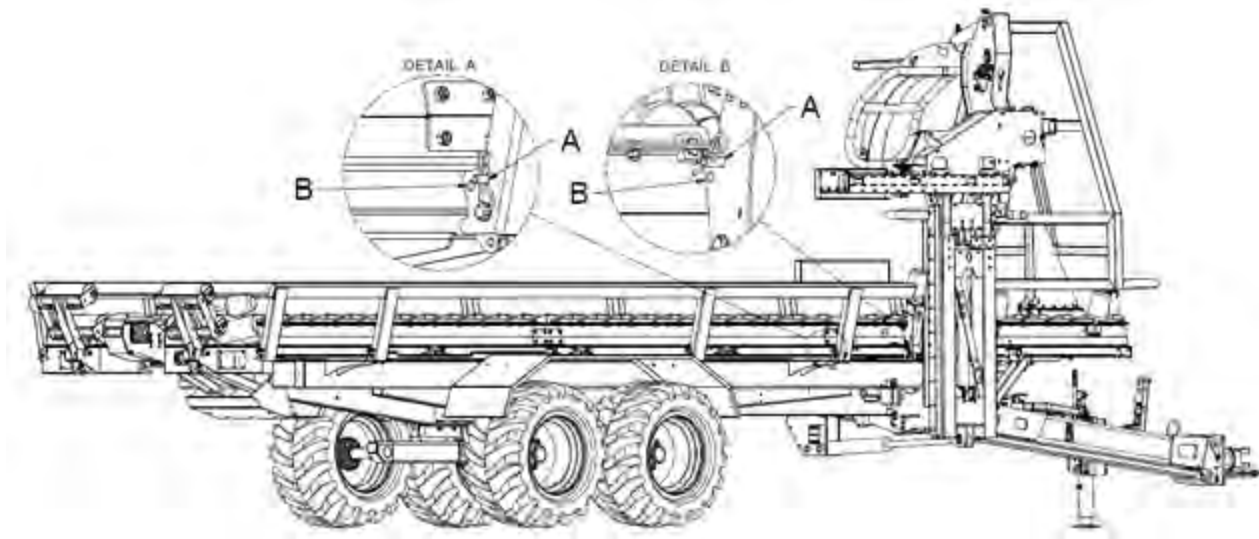

Figure 11 — Adjusting the Bale Guides (Detail A) and Bale Guide Roller (Detail B)
1. Remove the cotter pins and locks from the bale guides and bale guide roller (see Figure 11).